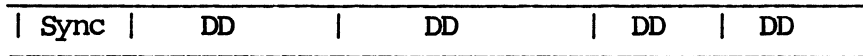

Figure 8-7. Header Marked Spare
5. Find a spare sector; it contains four bytes of ODDH. (see Figure 8-7.)